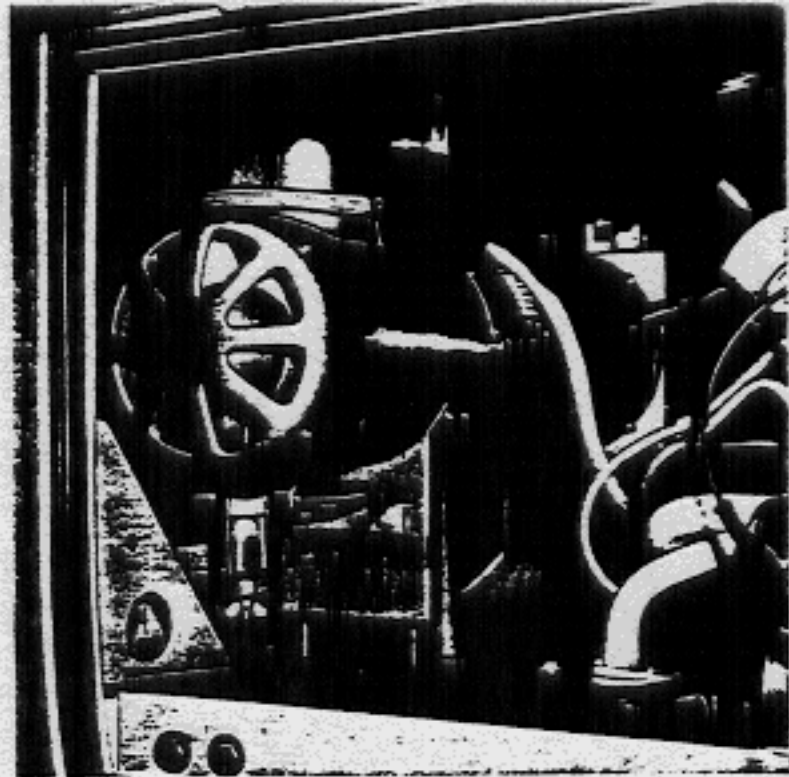

Fig. 9
- 10 - Install seal for exhaust pipe. Insert exhaust and intake pipes into the holes provisionally. Place heater in position and locate warm air flange into the outlet already installed. Bolt heater to base (Fig. 9).
- 12 - Cut a 6 cm long piece out of the fuel hose underneath the tank and install the "T" piece. Place the cut-out section of the hose on the free end of the "T" piece (Fig. 11). Push fuel line from engine compartment through the partition and into the hose on the "T" piece. Insert filter and connect it to the fuel lines with union nuts (Fig. 9).